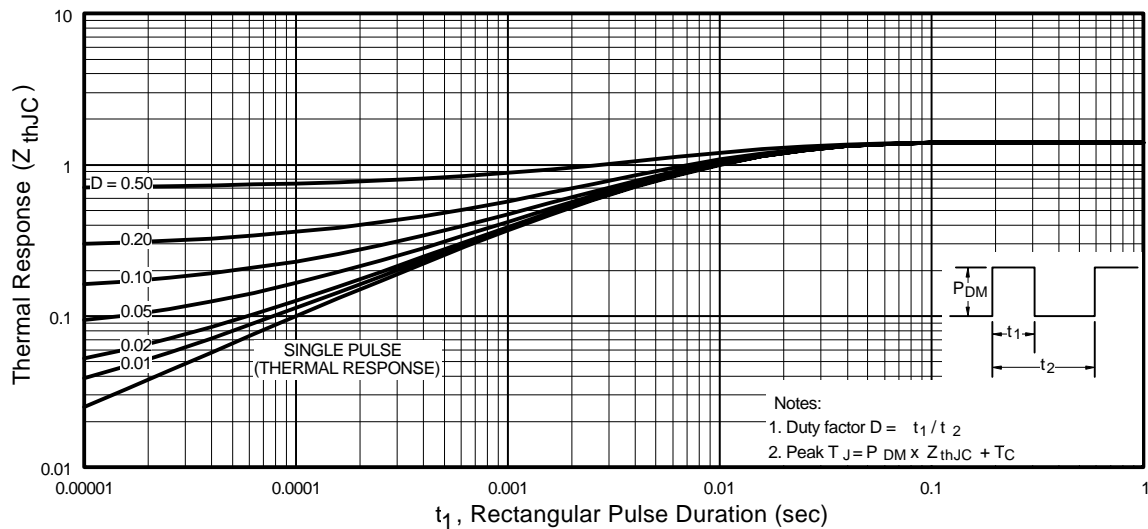

Fig 11. Maximum Effective Transient Thermal Impedance, Junction-to-Case
① Repetitive rating; pulse width limited by max. junction temperature. (See fig. 11)
④ Pulse width $\leq 300\mu s$; duty cycle $\leq 2\%$.
② Starting $T_J = 25^\circ\text{C}$, $L = 14\text{mH}$